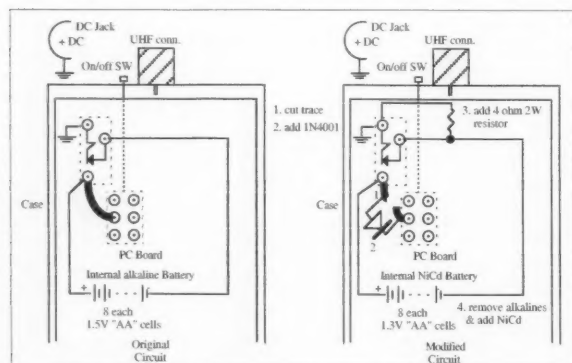

Fig. 1. PC board prior to modifications, and after modifications with DC polarity protection and NiCd 4-ohm current-limiting resistor added.
The last thing you would want is to connect power and destroy this SWR meter. My garage is littered with carcasses of car stereos and other toys that were rewired for little experiments, only to be subjected to momentary loss of sanity (polarity) and quick destruction. If you do something like this modification, please take the time to do it right. The modification has to account for (1) reversed polarity; (2) supplying a trickle charge to the NiCds instead of a fast one; and (3) retaining the original external power connection to keep the unit's original appearance. See Fig. 1 for the original power connections circuit and how it was modified with internal NiCds to accommodate the new charging options.